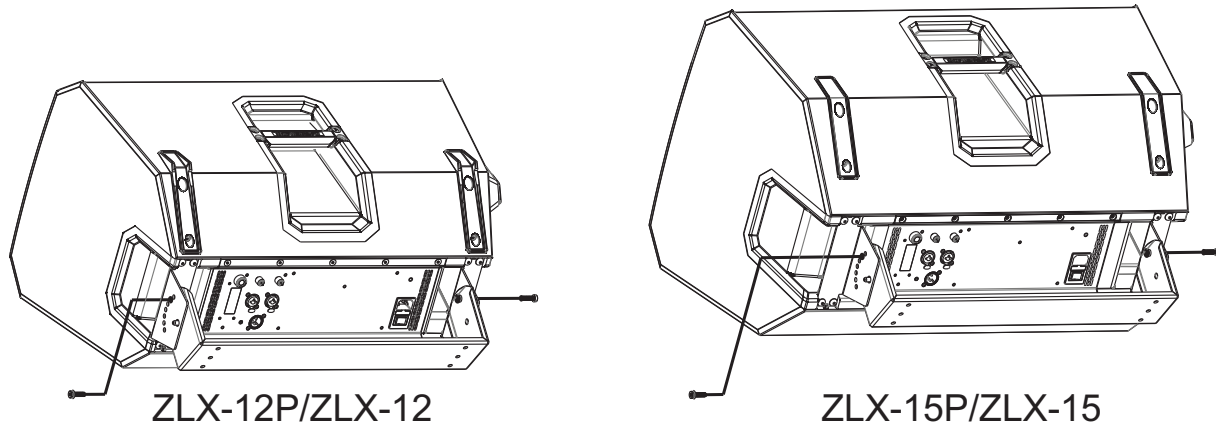

Figure 2.7: Secure Loudspeaker—Horizontal
7. Insert and tighten the two (2) **screws** (supplied) sufficiently so that the loudspeaker does not inadvertently rotate. (See Figure 2.7)